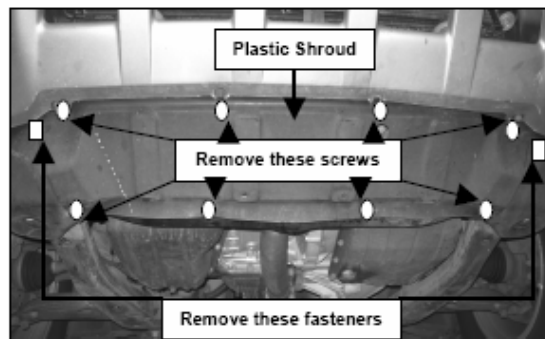

Figure 2
**2.** Carefully remove the plastic shroud underneath the vehicle by removing the (4) screws on top, (4) screws on bottom, and (1) fastener on each side (Figure 2).